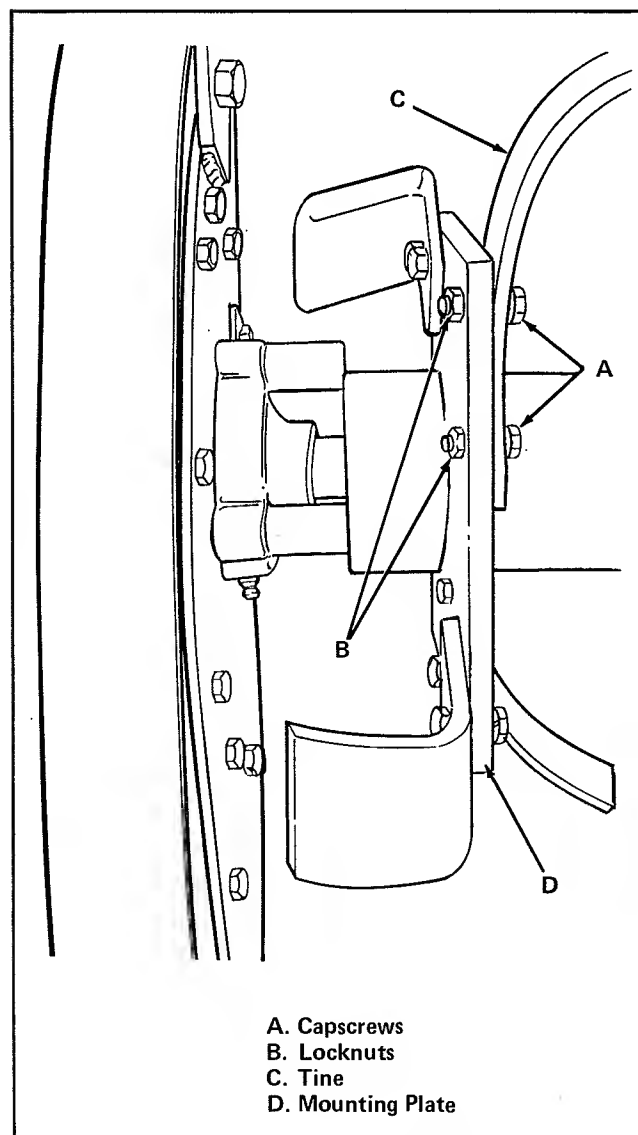

Figure 10. Tine Replacement
1. Remove two capscrews (item A, figure 10) and locknuts (item B).